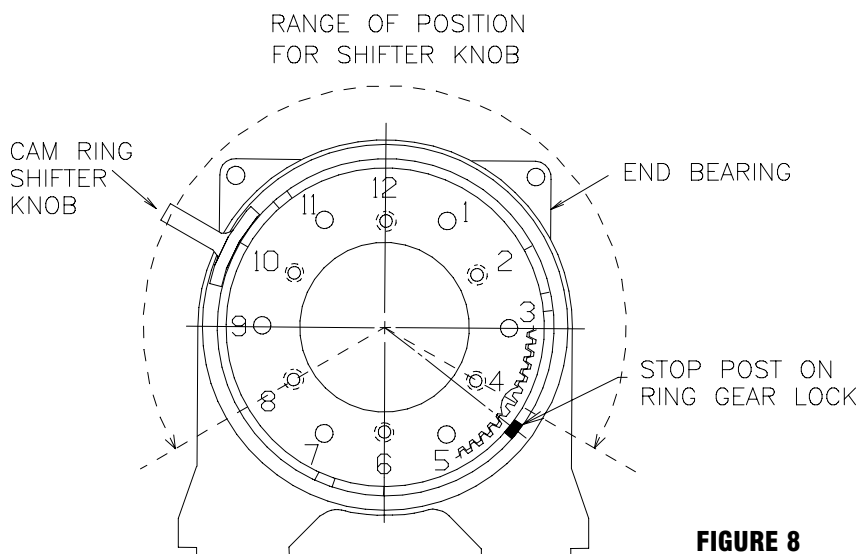

FIGURE 8
5. Determine position shifter knob needs to be for your application. **Note:** Shifter knob cannot be positioned too low or it will interfere with the feet on the Gear End Bearing (see Range of Position in Figure 8).